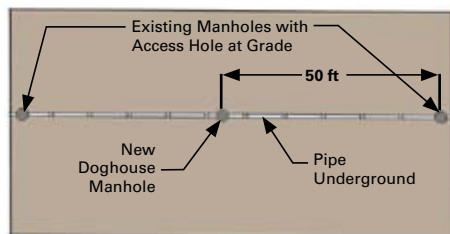

Fig. 1 PLAN VIEW
Step 1: At the job site, locate the pipe where the manhole will be installed. Information should be shown on contract drawings. This information should include the location of other pipes in the area (contact local utilities) and surface indicators such as manhole frame and grate, and valve boxes (See Fig. 1). Another option is to use electronic equipment to locate pipes underground.